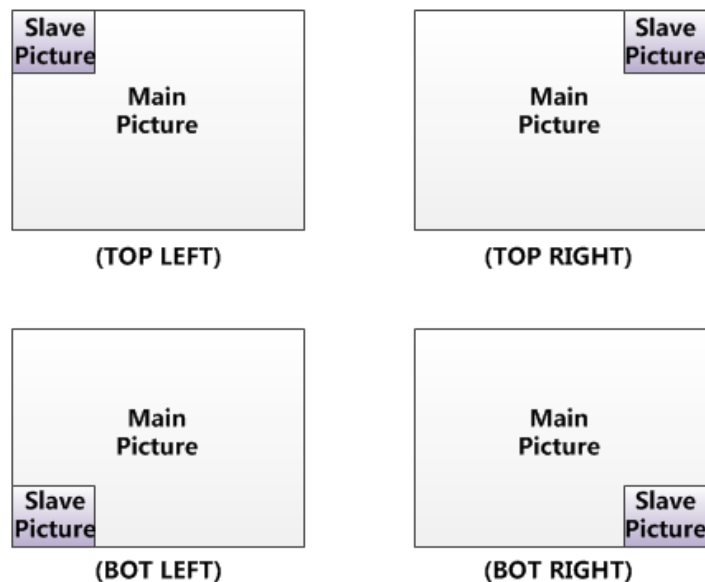

Figure 5.1-14 PIP Mode
- In PIP mode, the relationship of the main picture and the slave picture is as shown in Figure 5.1-14 :